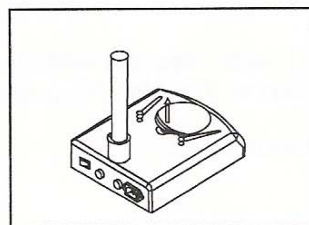

Fig. 11
- 1) Press the stage on the sunken place then the other side will be lifted. (Fig.11)